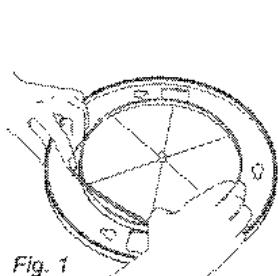

Fig. 1
- 1 Place the rubber driving belt over the bottom of the platter (Fig. 1).